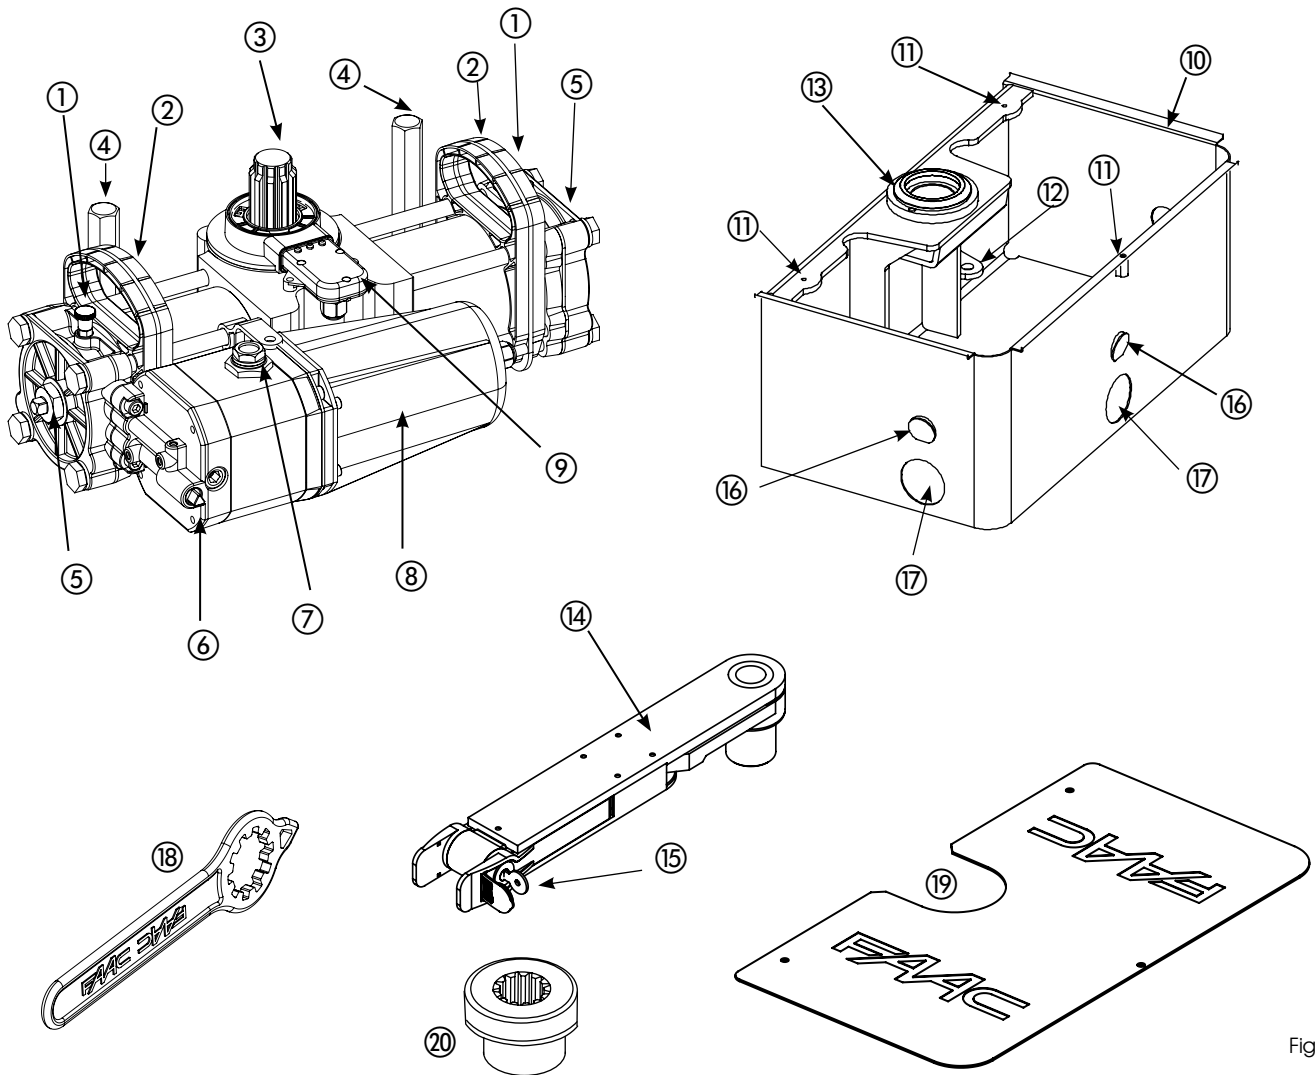
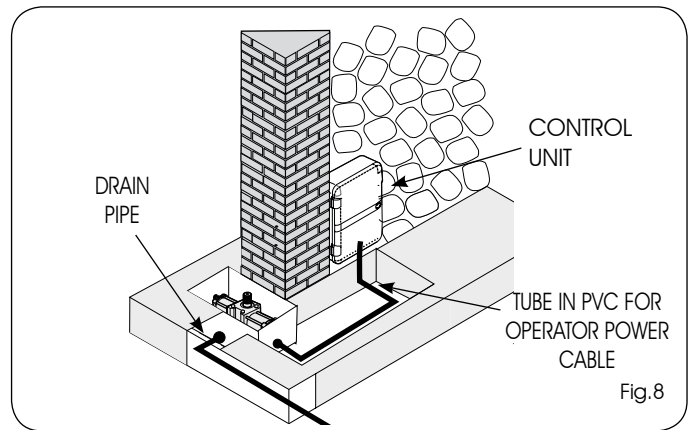

Fig.1
Fig.8
2) Fit a rain water drain pipe on the bearing case, reaching the nearest sewer, as shown in Fig. 8 for example
Take a PVC tube with 16 mm diameter to route the power cable. Insert it in the hole on the bearing case (Fig.1 ref.⑦) and take it to the electronic control unit. (See figure 8)
Provide a 50 diameter drain pipe, for rain water, so that it arrives at the nearest sewage channel (fig.8).